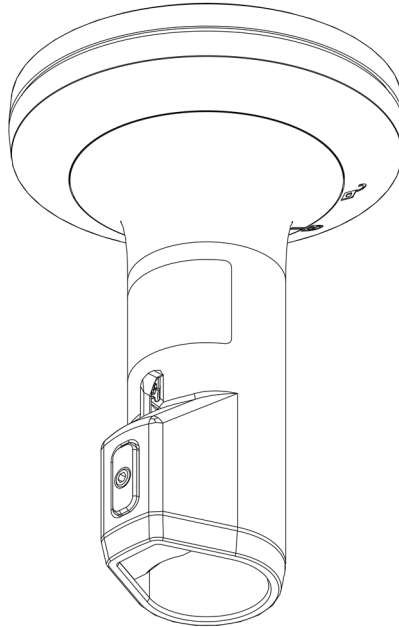

FIGURE 19: POLE MOUNT INSTALLATION STEP 3 (MAKE A RECORD OF THE UNIT SERIAL NUMBER)
Step 3: Unpack the LT-300 GNSS Receiver and make a record of the unit serial number for support or warranty issues that could occur in the future. The unit serial number label is fixed on the pole mount as illustrated in Figure 19.